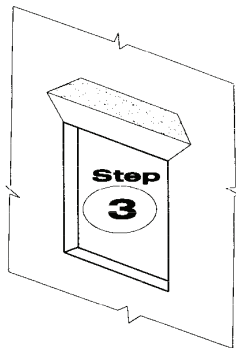

Figure 4 Cut head flap of WRB and fold up.
Step 3. Cut slits in the WRB diagonally from the top of opening corners to a distance equal to just more than the width of jamb/head flashing tape used. Fold flap of WRB above opening head and temporarily tape in place (see Figure 4).